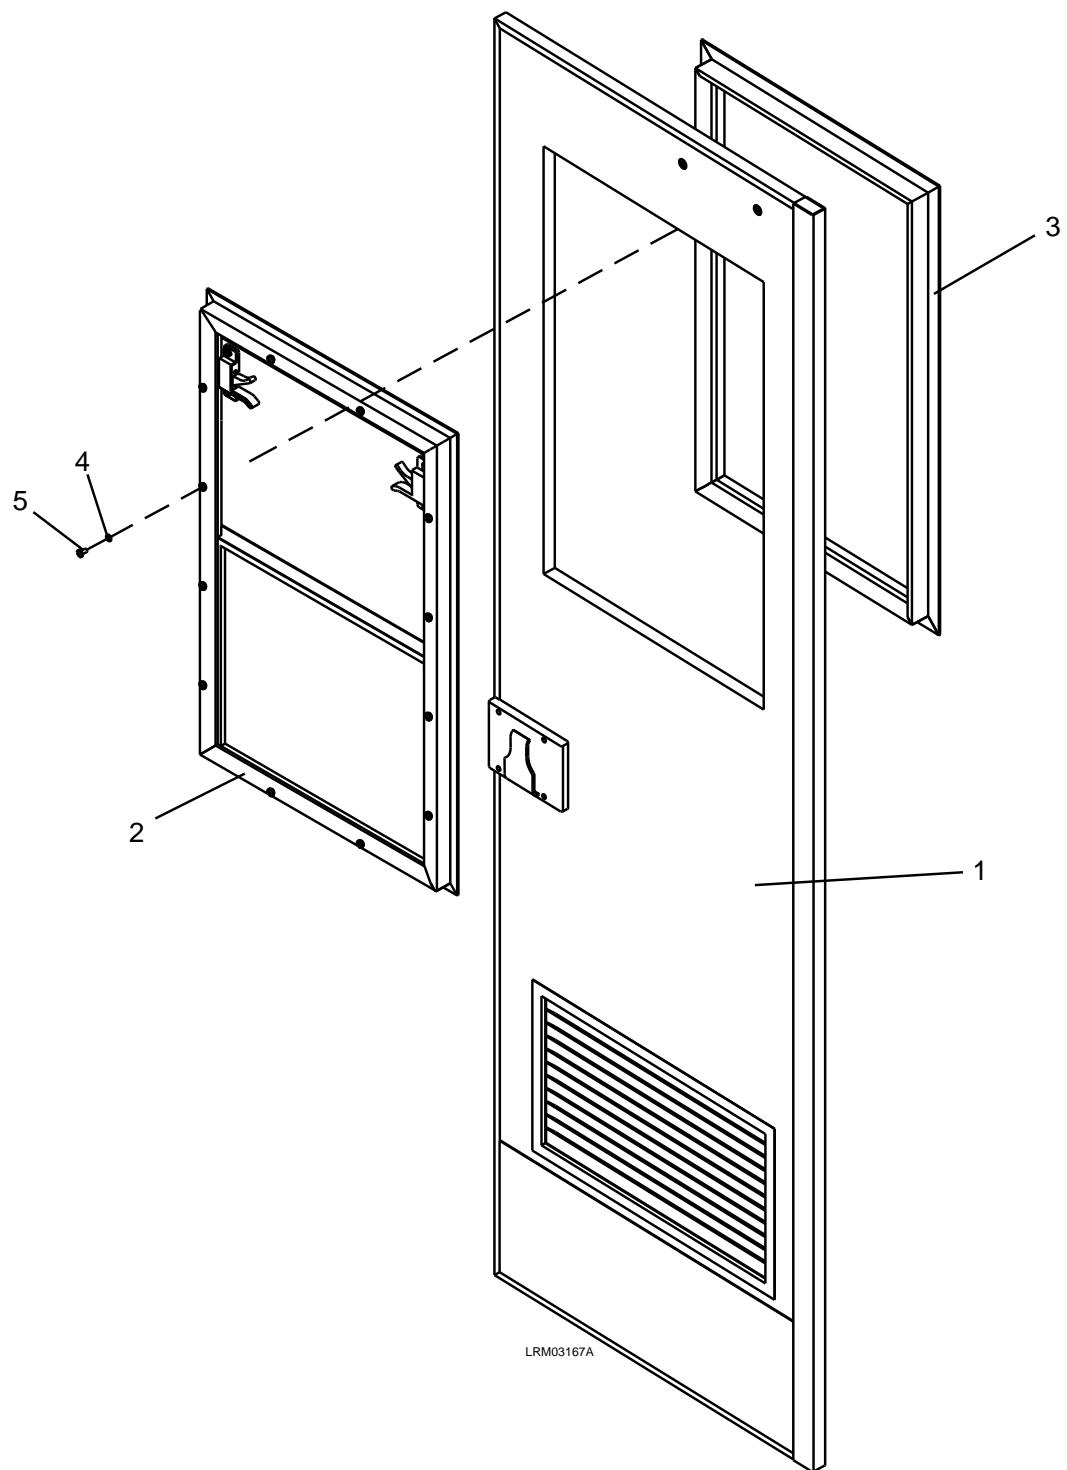

Figure 7-77: Cab Door Window
1. Remove the screws (5) and lock washers (4) that hold the cab door window (2) in place from the cab door (1). See Figure 7-77.
2. Carefully remove the outer frame (3) and cab door window (2).